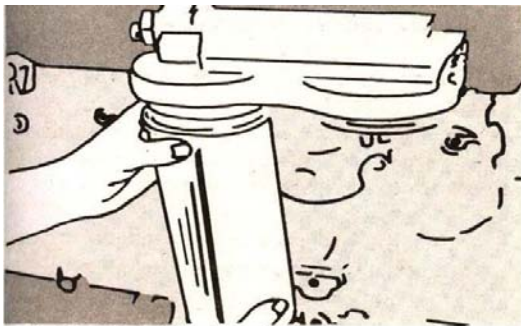

Fig. 14-87, Install the lube oil filter
4. Install the throw-away type filter elements (Fig. 14-87). Coat the seal with clean engine lubricating oil Tighten by hand until the seal touches the filter head and then tighten an additional one-half to three-fourths turn.